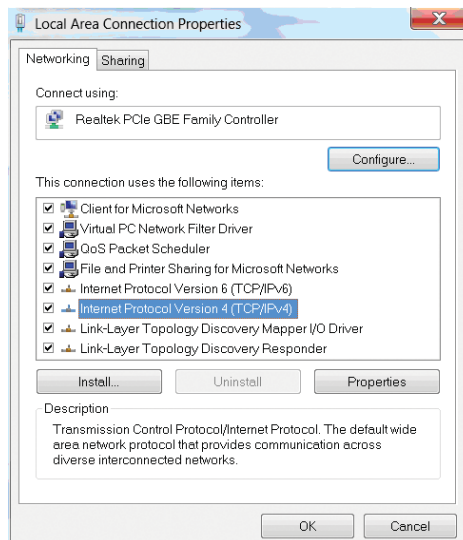

Figure 9-5 Local Area Properties
4. Click **Properties** (Figure 9-5).